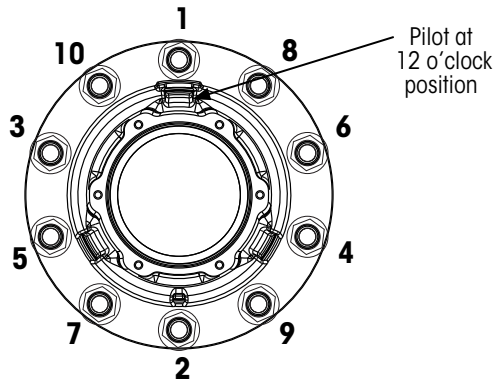
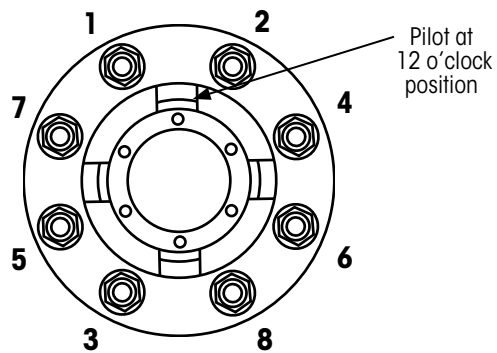

Figure 27: 10 stud tightening sequence
Figure 28: 8 stud tightening sequence
8. Using sequence shown in Figure 27 and Figure 28 on page 10, **tighten** all wheel nuts to 50 ft. lbs. (68 Nm) of torque.